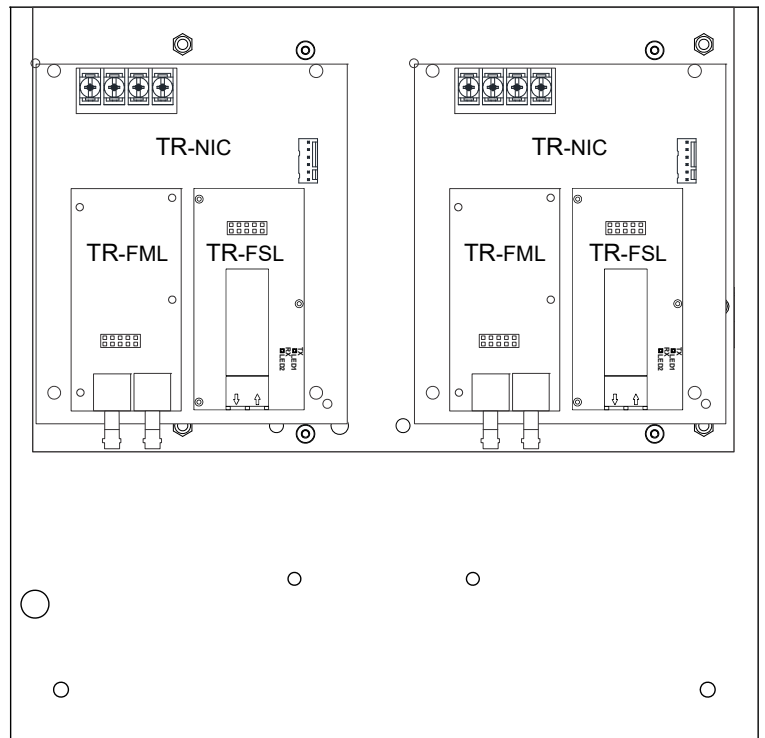

Figure 4 TR-NIC Installed in Cabinet
5. Insert four supplied, plastic standoffs for each SK-NIC board into the metal plate as shown in Figure 4.